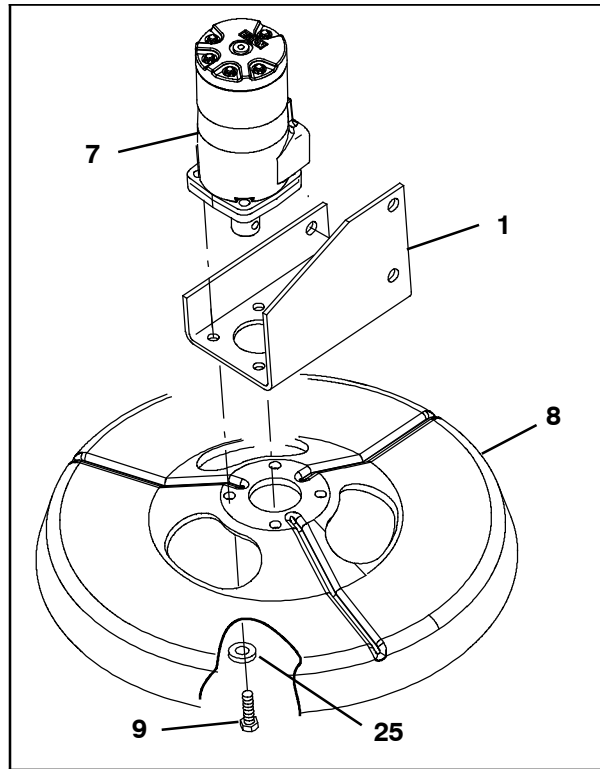

FIG. 4
13. Use four hex screws (9) and four flat washers (25) to install the brush guard (8) onto the side brush motor bracket (1) and brush motor (7). (Fig. 4)